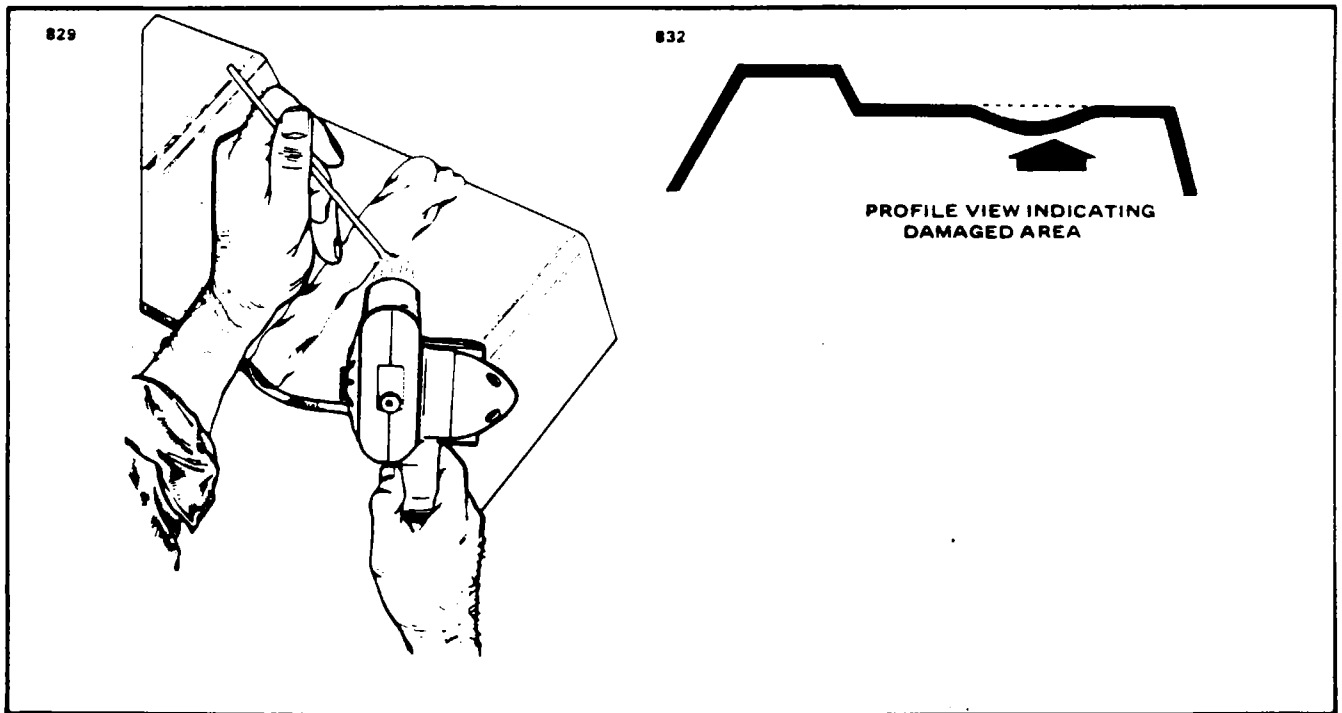

Figure 51-10. Repair of Impacted Damage
A. Stress lines produce a whitened appearance in a localized area and generally emanate from the severe bending or impacting of the material. (Refer to Figure 51-10.)